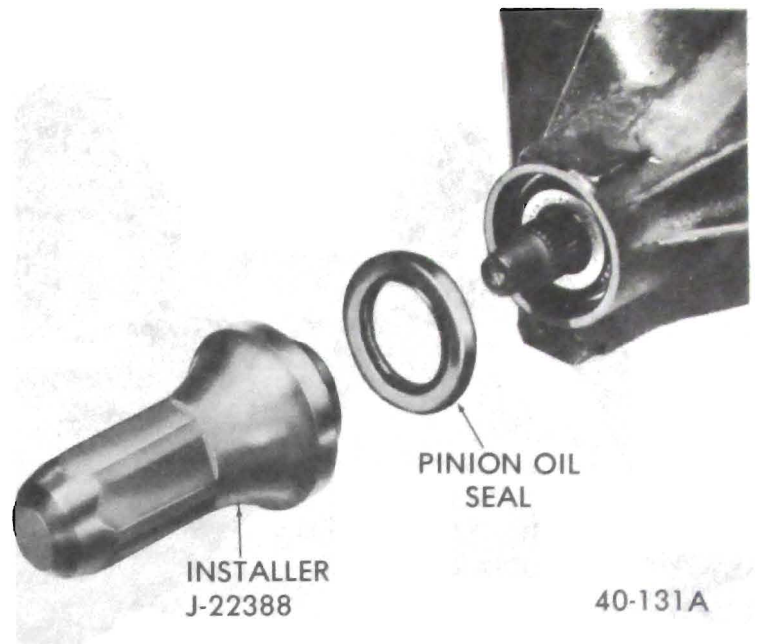

Figure 40-134 - Installing Pinion Oil Seal
3. Install pinion oil seal in carrier. Coat O.D. of seal with sealing compound. Install seal by using Installer J-22388. See Figure 40-134. A correctly-installed pinion seal should be .150" from flush with nose of carrier casting.